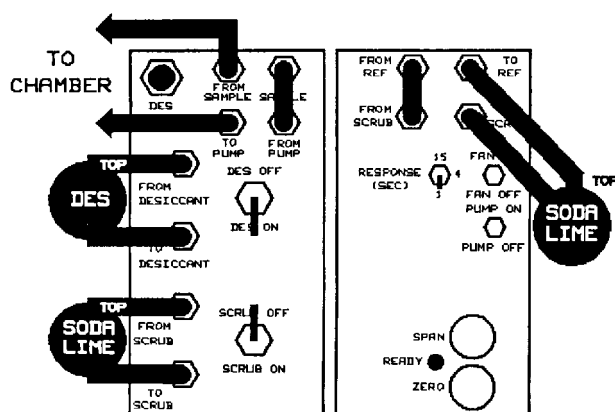

Figure 2. Standard connections for LI-6200 system (LI-COR, 1987)
1. Assemble system as shown in Fig. 2. Check that you have connected all the tubing, desiccant and soda lime tubes. The leaf chamber has two tubes that should be connected to the ports marked **To Pump** and **From Sample**. The tubes coming from the leaf chamber are interchangeable. Check that all tubing connectors are tight. Loose tubes are a common source of leaks. Most of the connectors used in the LI-6200 are fitted with valves that close when the connector is removed. You can damage the system is you operate the pump when some of the tubes are not connected or loose.
- ✓ With the system switched off, assemble system and check the tubing connections (Fig. 2).
Set the flow diversion switches on the analyser to DES ON and SCRUB ON, the response time to 1 second (RESPONSE TIME 1) and turn the PUMP ON. Shake the desiccant tube. Monitor the flow rate and CO2 concentration. Press **MONITOR** (if required) and **FLOW**, **↑**, **CO2**. Turn the needle valve on the analyser fully clockwise to have maximum flow through the desiccant. The CO2 concentration should rapidly approach zero. If the CO2 concentration does not fall, check that the tubing is properly connected (Fig. 2), that the flow diversion switches are correctly selected, and that the pump is on. If there is still a problem, test the analyser soda lime and replace if necessary. When the CO2 reading stabilises, adjust the ANALYSER ZERO knob on the right hand side of the analyser. Unlock the outer ring before turning the knob clockwise to increase the reading or anticlockwise to decrease it. When the CO2 reading is zero remember to turn the outer ring to lock the potentiometer. Record the flow rate before switching the analyser PUMP OFF and SCRUB OFF.